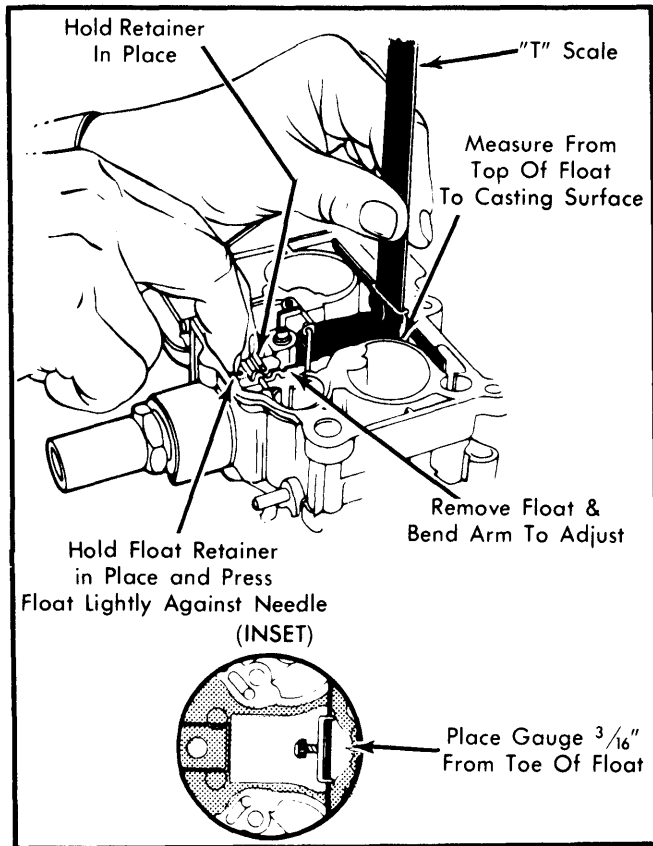

Fig. 3 Adjusting Float Level
1) Remove air horn and gasket from float bowl. Hold float retainer firmly down. See Fig. 3.